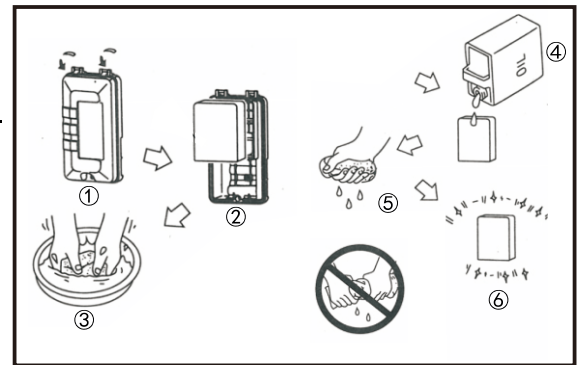

Fig. 10
3. Slowly add more oil and repeat step 2 until the oil mark reaches to the top of dipstick (Fig. 10). Do not over fill the crankcase.
2. Take the cover off of the air cleaner assembly by unscrewing the middle screw in order access the foam air cleaner assembly (Fig. 10).